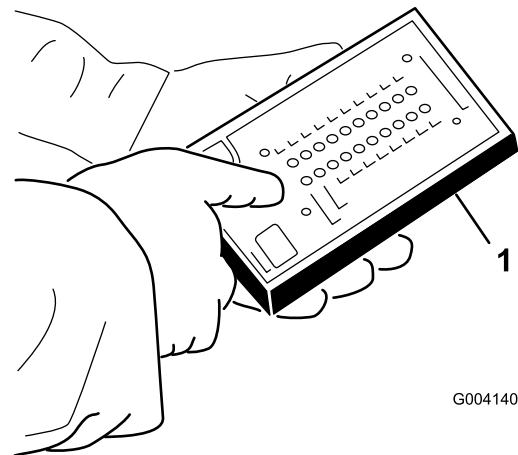

Figure 42
5. Connect the Diagnostic ACE display connector to the harness connector (Figure 42).